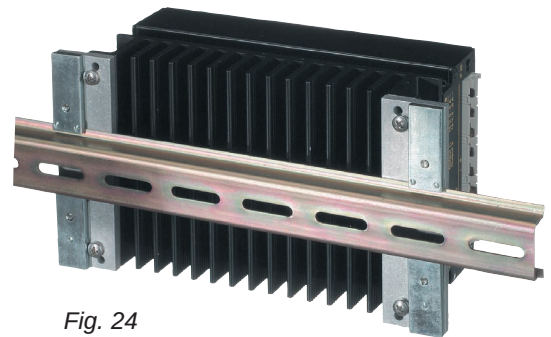

Fig. 24
- DIN-rail mounting assembly HZZ0615-G; see fig. 24